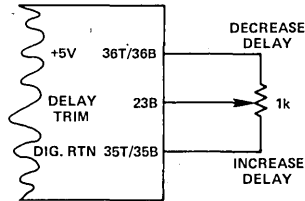

Figure 10. Delay Trim
The DLY OUT signal may be adjusted to vary the A/D converter triggering time by means of the external circuitry shown in Figure 10. An open DLY TRIM terminal (Pin 23B) results in a nominal delay time of 3.0 $\mu s$ . A grounded DLY TRIM terminal (for highest-accuracy) results in 20 $\mu s$  delay time nominal.
- (1) **NORMAL** (input channel remains selected during its A/D conversion). Connect Pin 23T (DLY OUT) to Pin 27T (TRIG).
- (2) **OVERLAP** (next channel is selected during A/D conversion). Connect Pin 27B (EOC) to TTL compatible inverter input. Connect inverter output to Pin 24T (STROBE). Connect Pin 23T (DLY OUT) to Pin 27T (TRIG). Adjust the delay to at least 4 $\mu$ s greater than EOC, 20 $\mu$ s max (see Figure 10). The signal on Pin 26T (TRIG) serves as RUN/STOP control.
- (3) **REPETITIVE SINGLE CHANNEL.** After selecting the input channel to be repetitively sampled (see MUX ADDRESS MODE, above), set Pin 27T (TRIG) to Logic "0". Connect Pin 26T (TRIG) to a triggering source. Conversion process is initiated by positive edge of TRIG command.